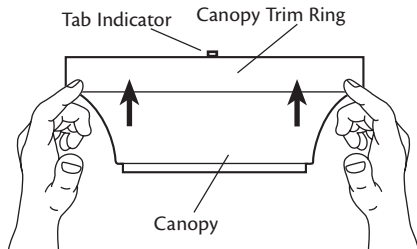

Figure 22 - Removing the canopy trim ring
1. Locate the tab indicators, small bumps on top of tabs. Refer to Figure 22.
2. To remove the canopy trim ring, press firmly on opposite sides of the ring towards the canopy as shown in Figure 22. The tabs will flex out releasing the trim ring from the canopy.